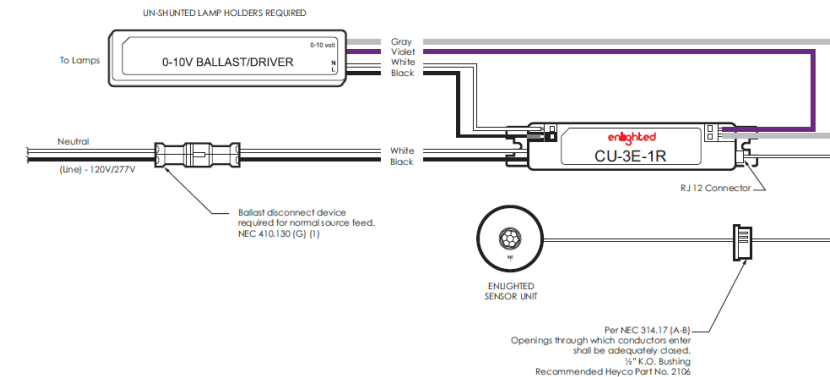

Figure 5: Wiring Connection
2.	Mount the Control Unit (CU) behind the ceiling tile or in a UL approved enclosure. Refer to the Control Unit Installation Guide .
3.	Connect the RJ-12 connector end of the Compact Sensor cable to the Control Unit. See Figure 5.